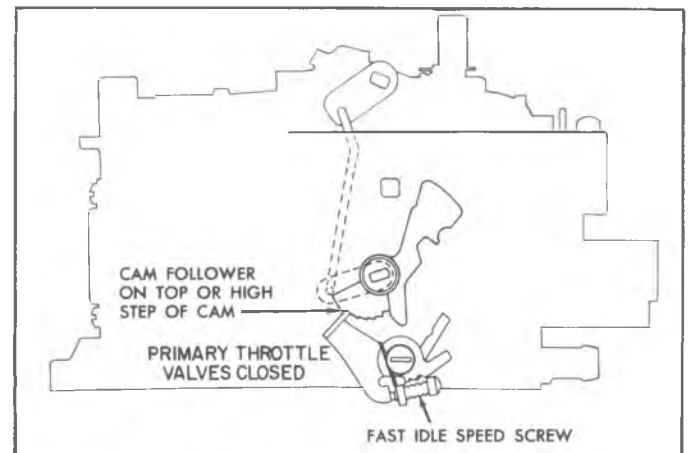

Fig. 2C--Fast Idle Adjustment (Rochester 4MV)
- a. Adjust fast idle screw on Rochester 4MV (Fig. 2C).